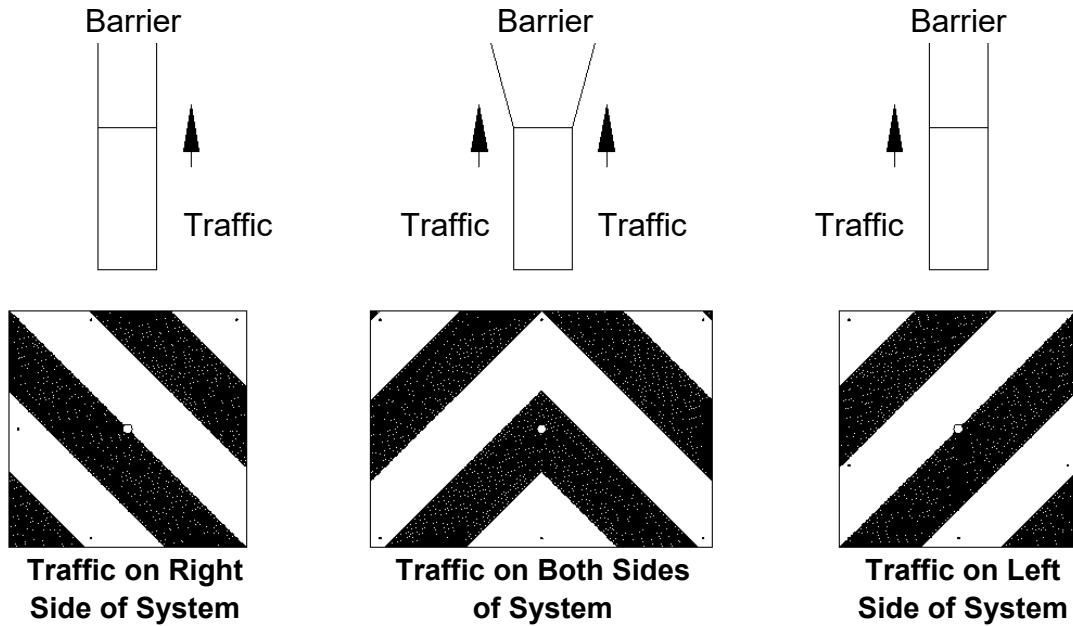

Figure 24 - Nose Cover Selection
1. Ensure appropriate Nose Cover is attached (Figure 24). The Nose Cover Selection below will assist in your selection and you should refer to local standards and MUTCD for nose.